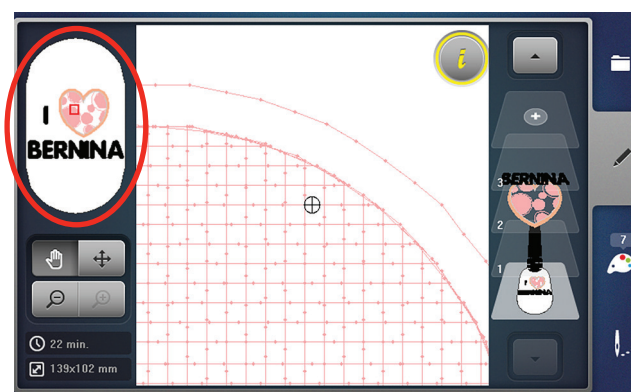

Fig. 10
Zoom in and out using the plus (+) and minus (–) icons. Tapping the + Zoom icon will direct you to the Zoom screen (Fig. 10), where you can then zoom in to individual design stitches. You can select specific stitches as needed, as illustrated by the crosshair. This feature is highly beneficial for the precise placement of designs.
- **Design Preview:** In the upper left corner (circled in Fig. 10), you'll see the full hoop with all the motifs.